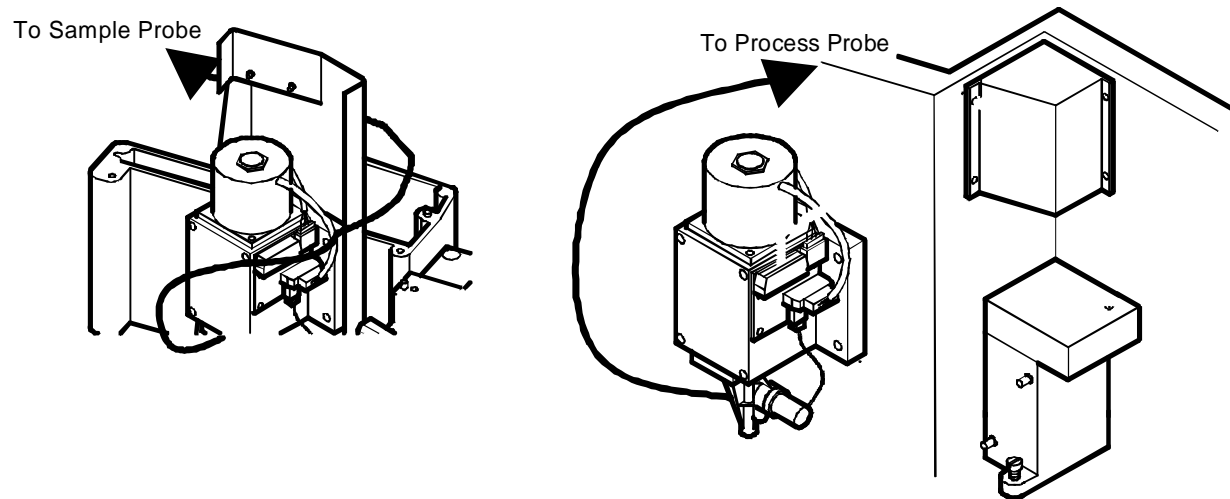

Figure 2
5. Route tubing as shown in Figure 2. Replace tubing that is crimped or kinked.